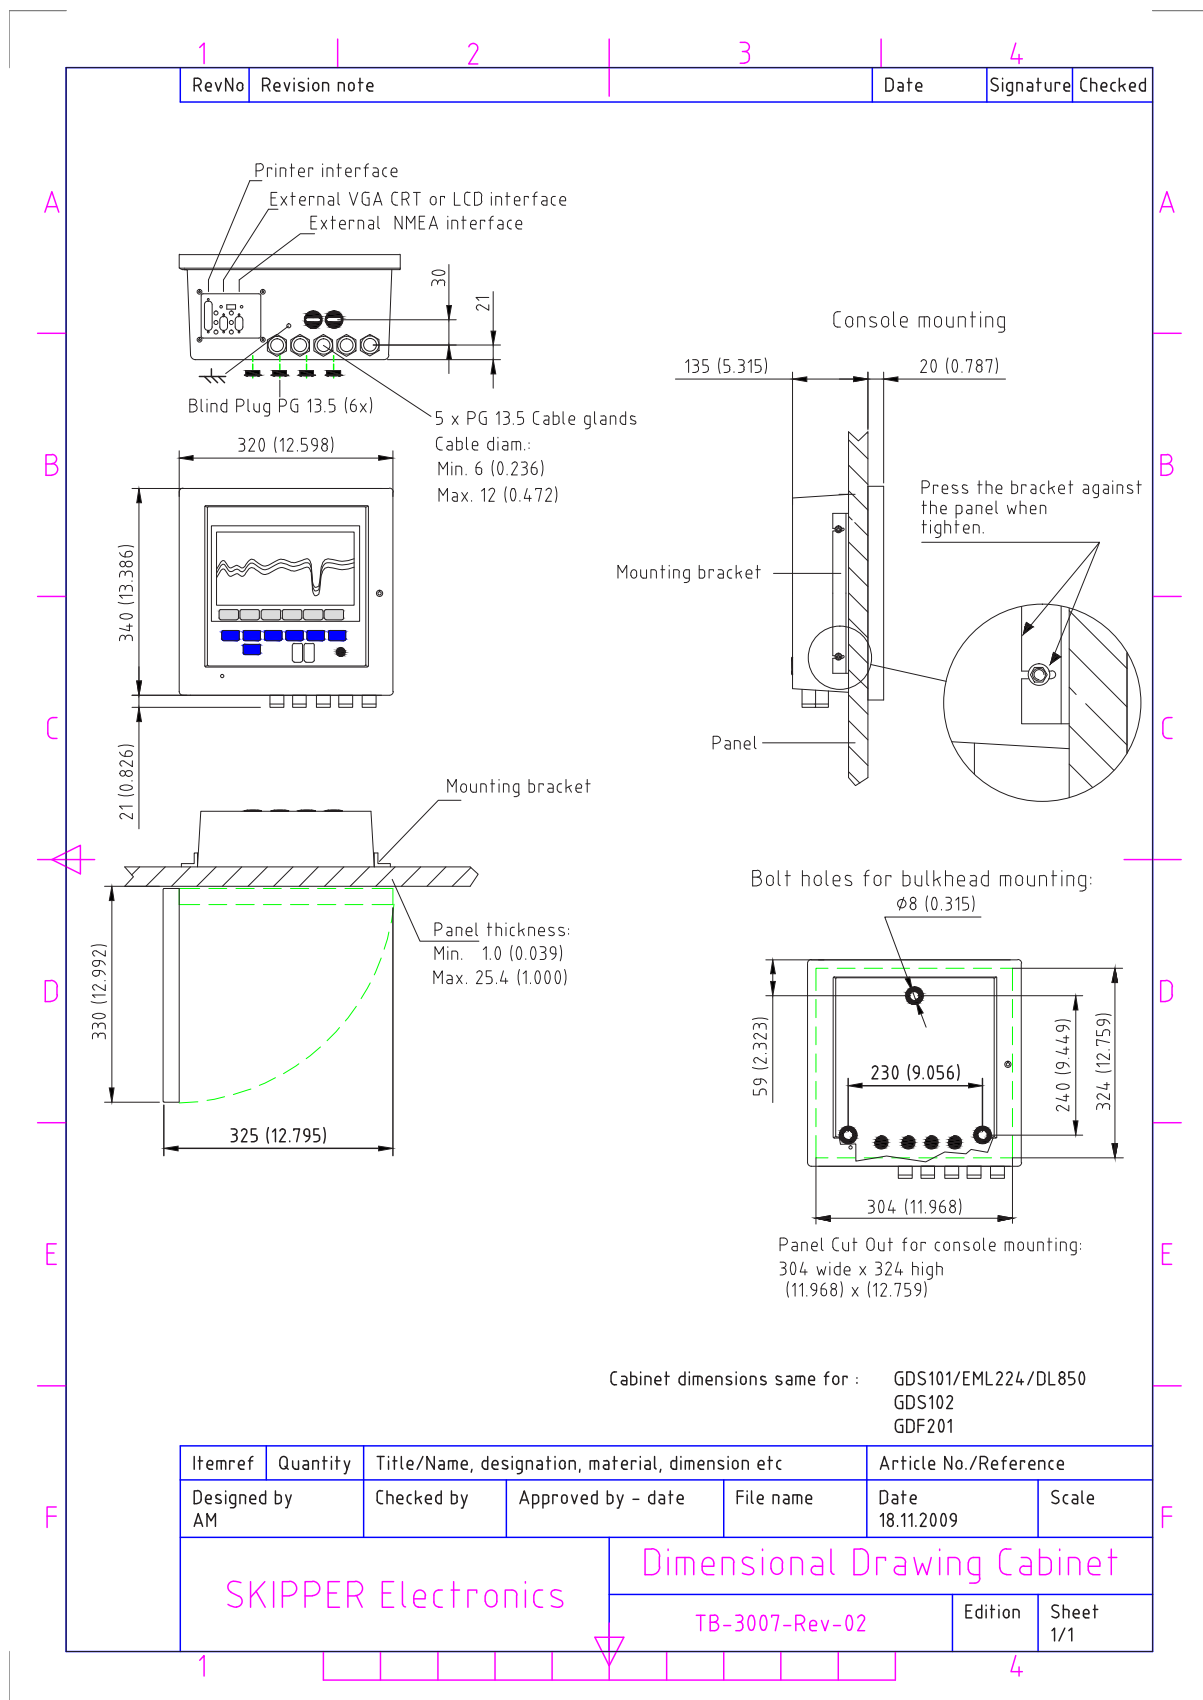

Fig. 10.7. Cabinet Dimensions
- Fig. 10.7. Dimensional drawing of operator unit. See “Dimensional Drawing Cabinet” on page 73.